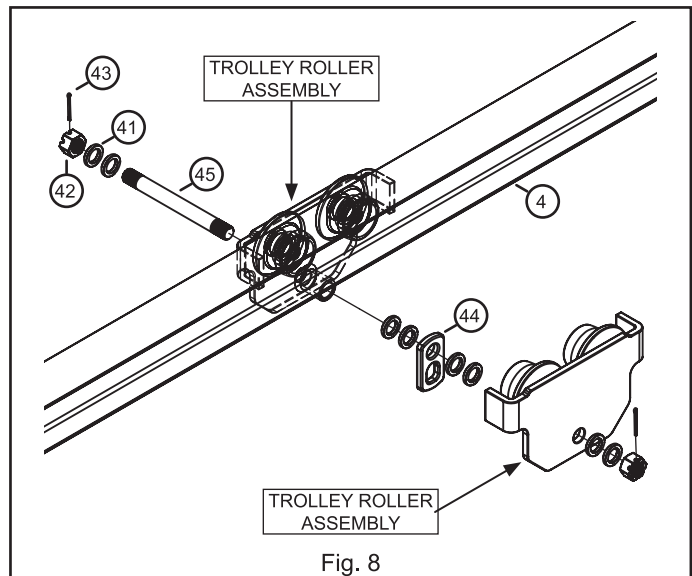

Fig. 8
STEP 8: Install the Trolley, Fig. 8. Place one of the Trolley Roller Assemblies onto the I-Beam (4), Fig. 8. Insert the Suspension Pin (45) through the hole at the bottom of the Trolley Roller Assembly. Place two Spacer Washers (41), the Suspension Plate (44), two more Spacer Washers, and the second Trolley Roller Assembly onto the Suspension Pin (45). While holding the two Trolley Roller Assemblies together by hand, move the trolley back and forth to check that there is enough clearance for the trolley to move along the I-Beam (4) without binding. Also check to see that the trolley is not too loose on the I-Beam (4) and that there is not excessive space between the rollers.